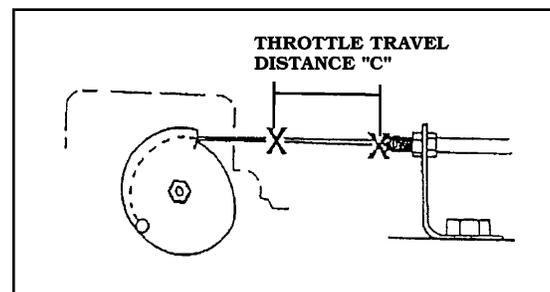

Figure 6
C. Measure the Distance "C" between the two marks. **Figure 6** If the distance is greater than **41mm (1-5/8")**, go to **Page 9**; If it is less, go to **Step D**.